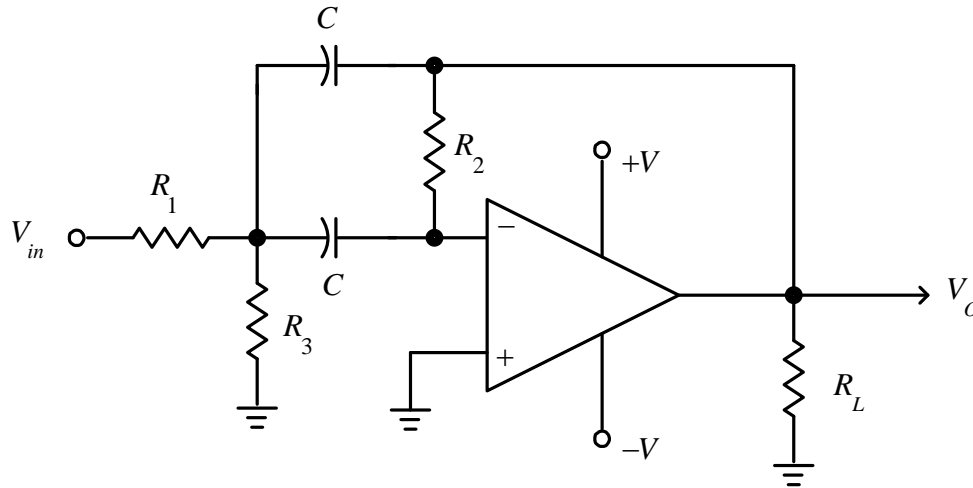

Fig. 1. An Op-Amp Bandpass Filter.
Figure 1 shows one of many possible bandpass filters that can be synthesized with an op-amp. With this design, you can not only supply gain, but you can also change the center frequency by adjusting only one resistor.
2. Breadboard the circuit of Fig. 1, using your chosen values. Use a  $\pm 12$  volt supply. A 741 op-amp can be used. Check with the data sheet or your lab instructor to make sure you have the correct pin assignments.  $R_L$  can be 3.3k.